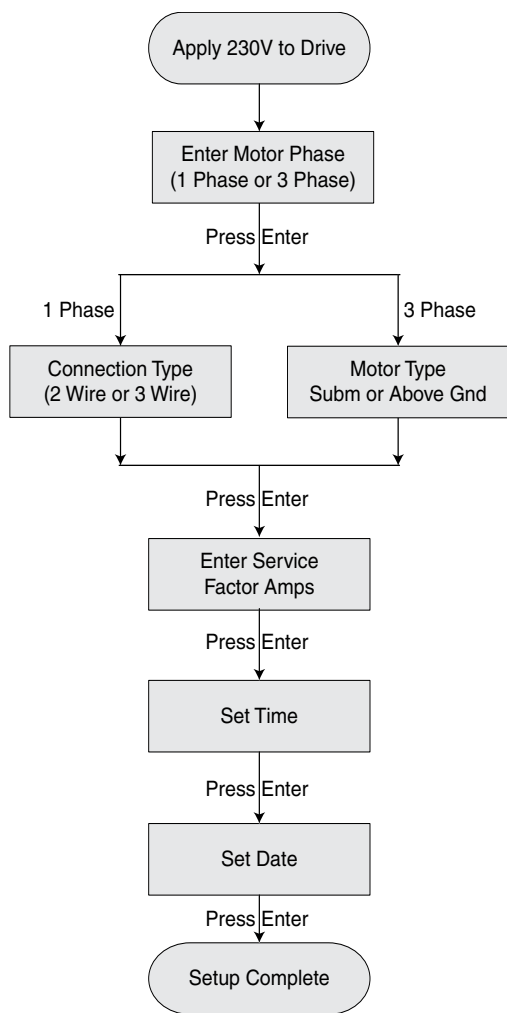

Figure 10 - Drive Setup Guide.
- 1. **Program the Drive:** Apply power to the Pentek Intellidrive. Setup Guide will appear in the display. Follow keypress sequence shown in Figure 10.